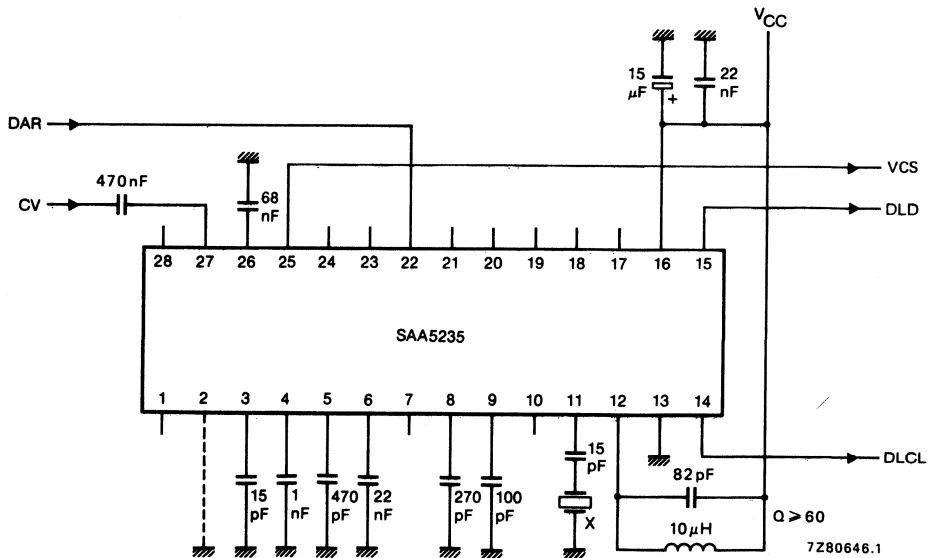

Fig. 2 Application circuit; crystal X; f = 10,000 MHz.
**CHARACTERISTICS** $V_{CC} = 12\text{ V}$ ;  $T_{amb} = 25\text{ °C}$ ; with external components as shown in Fig. 2; unless otherwise specified